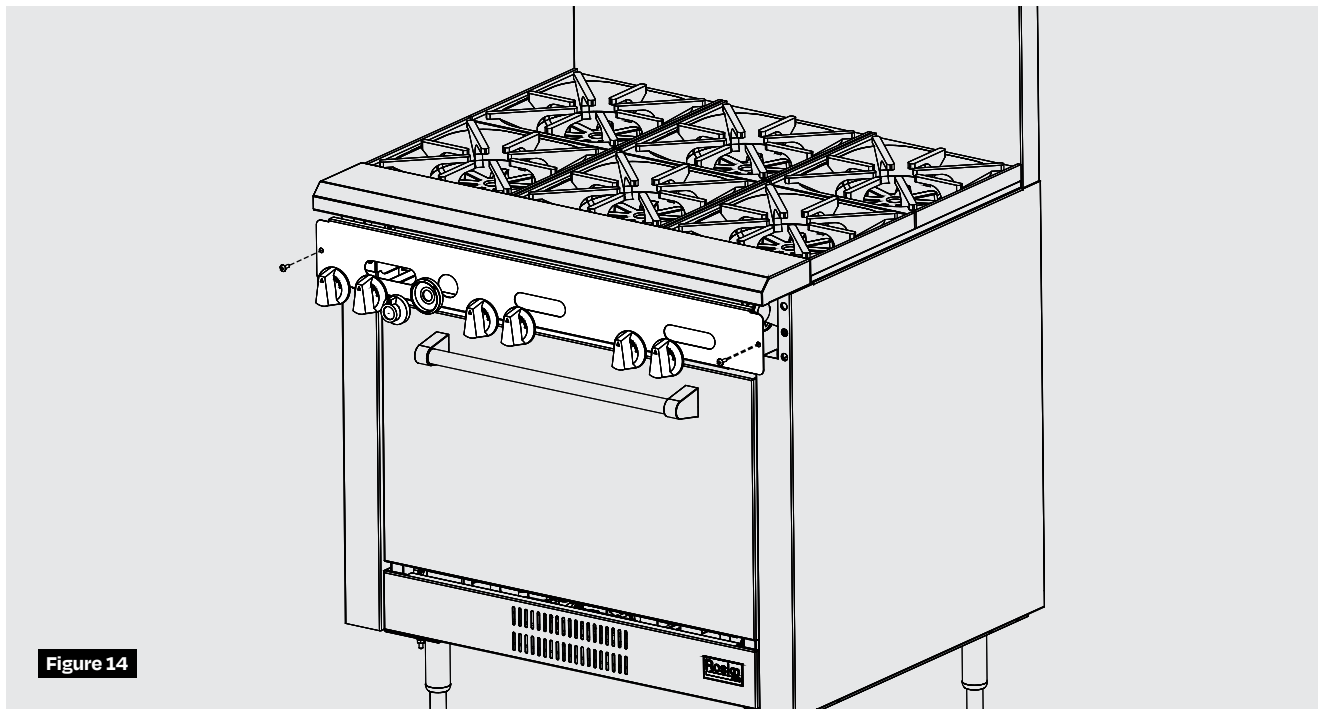

Figure 14
1. To measure the gas pressure, remove the control knobs, unscrew the bolts on the top panel and remove the panel. **(Figure 14)**